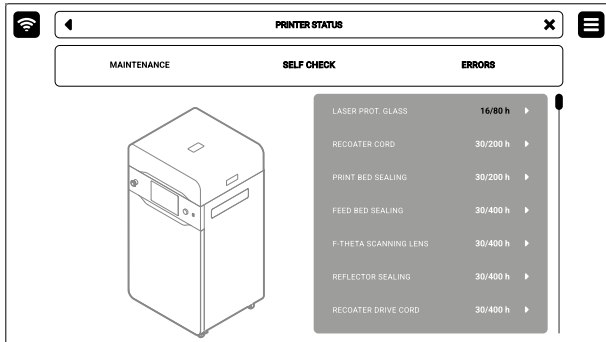

Fig. 12.9 Select the **Recoater CORD** position to start the maintenance.
1. On the **PRINTER STATUS** tab, select the **Recoater CORD** position (fig. 12.9)